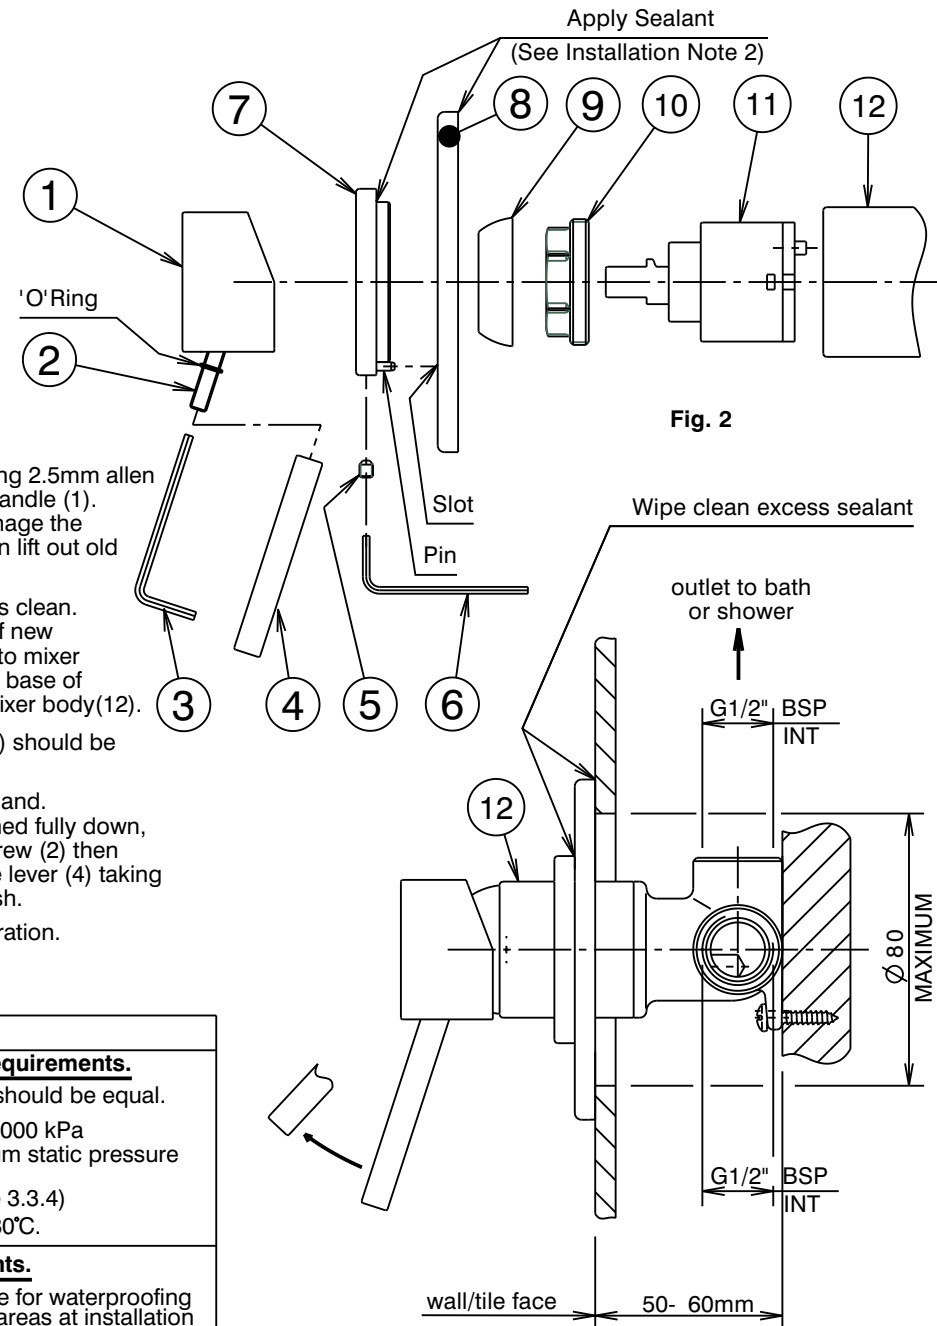

Fig. 1
Installation (Fig. 1 & 2)
- * Mixer body (12) must be installed square to wall/tile face, to ensure cover plate (8) sits flush.
- 2) Apply a suitable clear sealant to the back edge of the cover plate (8), leaving an unsealed section at the bottom for drainage. Apply a suitable clear sealant in the corner around the location diameter of the retaining ring (7), to prevent water entering the wall cavity (See Fig. 2). Carefully fit the cover plate (8) followed by the retaining ring (7) onto the mixer body (12), ensuring the slot in the cover plate is at the bottom & the pin in the retaining ring is engaged in the slot (with the screws at the bottom). Push the retaining ring and cover plate firmly against the wall/tile face and tighten screws (5) using 2mm allen key (6). Wipe clean any excess sealant from the chrome surfaces & the wall/tile face (See Fig. 1).
- 3) Fit handle (1) taking care that it is pushed fully down, check that 'o'ring is fitted over grub screw (2) then tighten grub screw (2) using allen key (3). Screw handle lever (4) onto grub screw (2) and tighten firmly by hand, taking care not to damage the decorative finish.